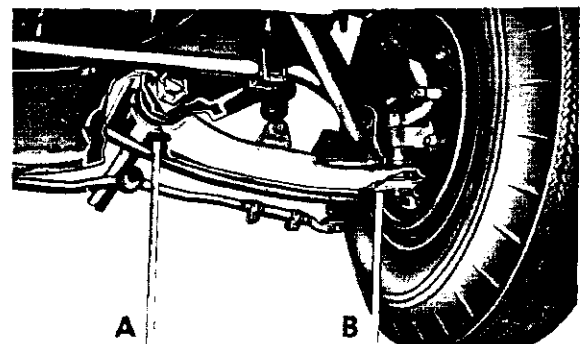

Fig. 2—Checking the Front Suspension Height
(1) Clean all foreign material from the bottom of the lower ball joint assemblies and from the bottom of the lower control arm bushing housings between the flanges of the arms.
(2) Jounce the car several times releasing it on the downward motion.
(3) Measure the distance from the lowest point of one of the lower control arm bushing housings to the floor (measurement A) and from the flat portion on the bottom of the lower ball joint on the same side (measurement B) to the floor (Fig. 2). Measure only one side at a time. The differential between measurement A and B should be as follows: